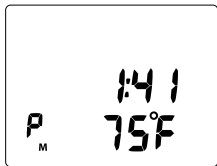

Fig. 106 - FREE DIVE ALT
**FREE DIVE ALT**, information includes (Fig. 106) -